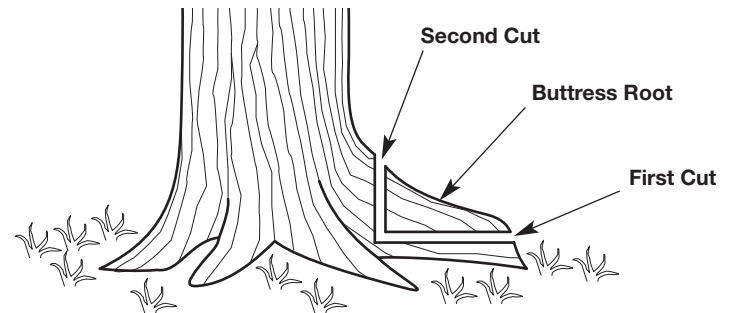

Fig. 11
1. Make a horizontal cut into the buttress root (Fig. 11). To prevent the guide bar from being pinched by the weight of the wood, always make this cut first.
2. Make a vertical cut into the buttress root (Fig. 11).